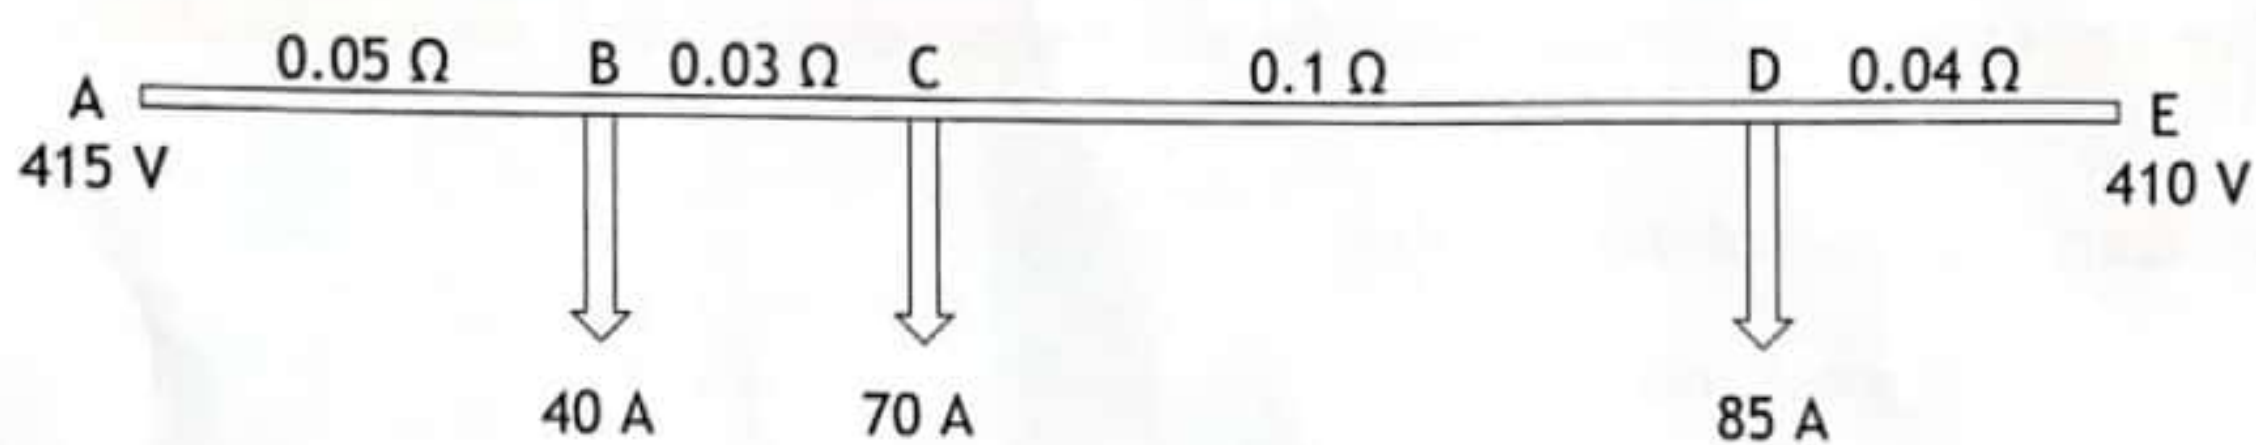

Fig Q1
1. Fig Q1 shows a two-core distribution cable, its go + return section resistances and the supply voltages at A and E. The cable supplies three loads as shown.